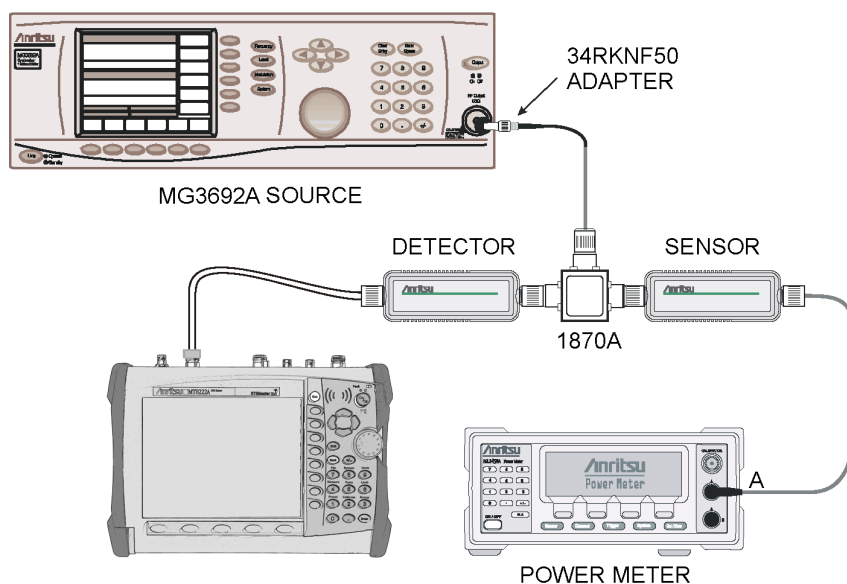

Figure 5-1. Power Monitor (Option 5) Verification
5. Connect the equipment as shown in Figure 5-1.